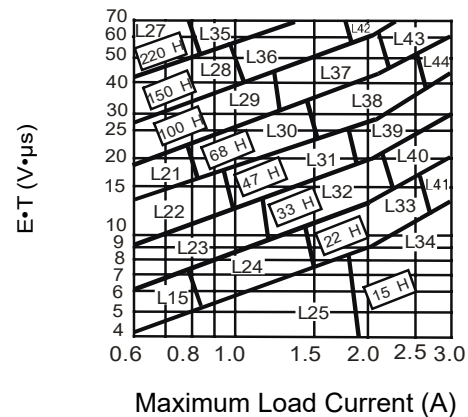

Figure 7: AP1501-ADJ
D. From the inductor value selection guide shown in Figure 7, the inductance region intersected by the 34 ($V \cdot \mu s$) horizontal line and the 3A vertical line is 47 μH , and the inductor code is L39.